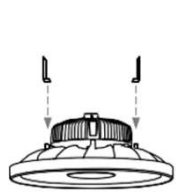

Figure 3
1. To install the optional yoke bracket on the luminaire, begin by attaching the L-shaped yoke mounting brackets on the luminaire. (See Figure 3)